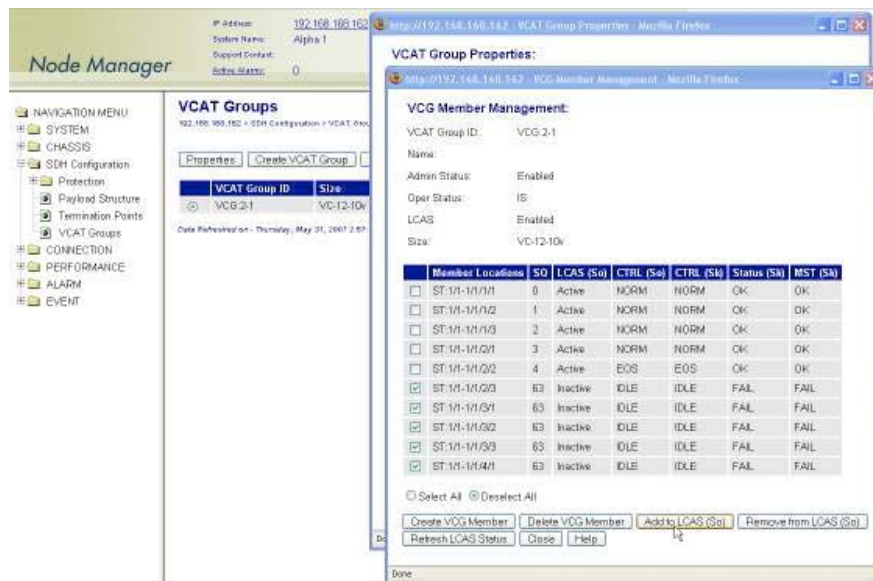

Figure 60. Adding VCG Members to the LCAS (So) Function
4. Click on the **Add to LCAS (So)** button (see Figure 60 on page 127).